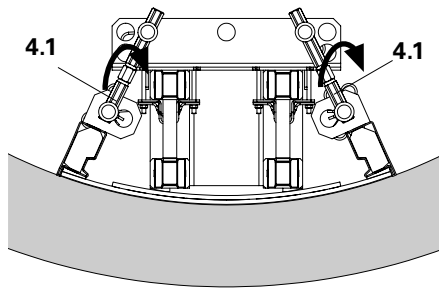

Fig. A5.03
2. Evenly turn the Adjustable Spindle 210 (4.1) until the template rests against the formlining. (Fig. A5.03)